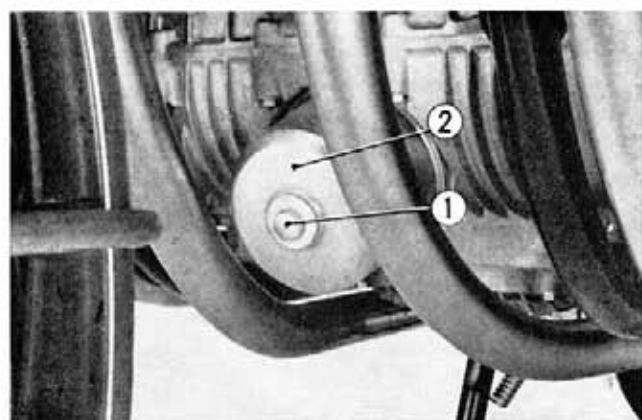

Fig. 3-9 ① Oil filter center bolt
1. Unscrew the oil filter center bolt from the front of the engine and take out the oil filter case. (Fig. 3-9)